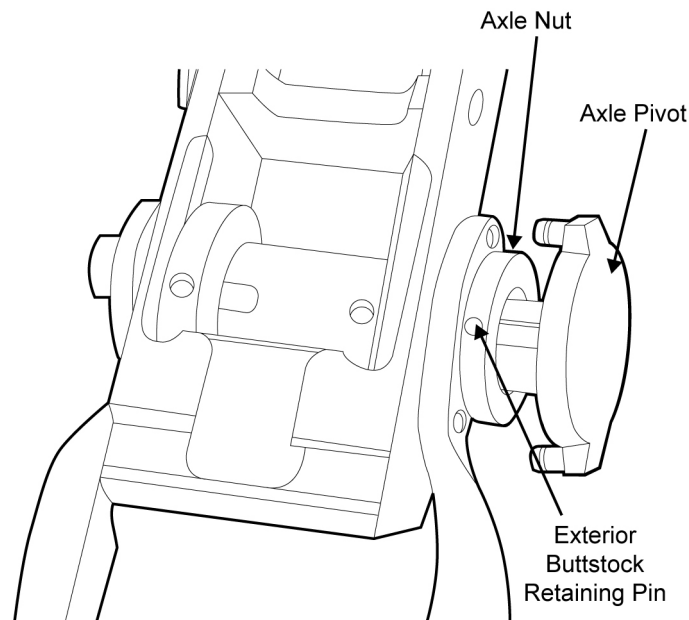

Figure 47. The Axle Pivot Partially Inserted and One of the Buttstock Retaining Pins Installed through the Axle Nut.
- d. Insert the axle pivot into the right side of the buttstock axle and axle nut, only far enough to align the slot in the axle pivot with the holes in the axle nut. Insert one of the buttstock retaining pins into the axle nut, ensuring that the pin is through both sides of the axle nut. Restake each end of the buttstock retaining pin. Refer to Figure 47.